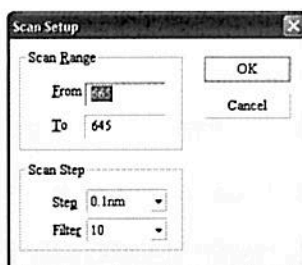

Fig. 4-11
2. Click  on the toolbar, appears the following form (Fig. 4-11). Input start wavelength in **From** box (range: 190-1100nm), end wavelength in **To** box (range: 190-1100nm), select scan interval (0.1, 0.2, 0.5, 1.0, 2.0 or 5.0nm) and Filter times (1, 3, 5, 10 or 30), click **OK**.